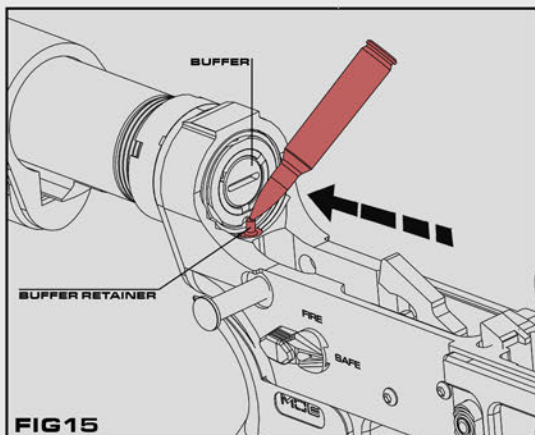

FIG15
15. COCK THE HAMMER AND PLACE THE SAFETY SELECTOR IN 'SAFE', DEPRESS THE BUFFER RETAINER, FIG 15.